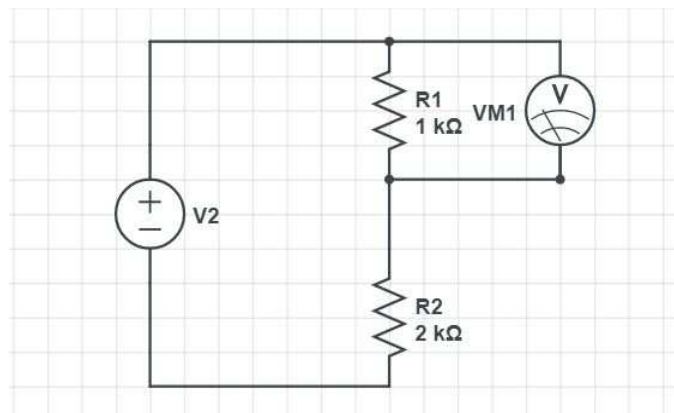

Fig. 11 First circuit for testing Kirchoff's Voltage Law.
3. If we build the circuits shown in Figs. 11 and 12 with a voltage source, a multimeter (measuring voltage) and a couple of resistors, we can test whether the total voltage drop across the two resistors is equal to the source voltage (remember, at the end of Part 1 we decided that the voltmeter in the power supply is accurate).
Go ahead and build the circuits shown in Figs. 11 and 12 by placing two resistors (1 k Ω and 2 k Ω) in series with the power supply. Set the power supply to some nominal value, like 5 V. Then measure the voltage across each resistor individually and record your results below.
Go ahead and build the circuits shown in Figs. 11 and 12 by placing two resistors (1 k Ω and 2 k Ω) in parallel with the power supply. Set the power supply to some nominal value, like 5 V.